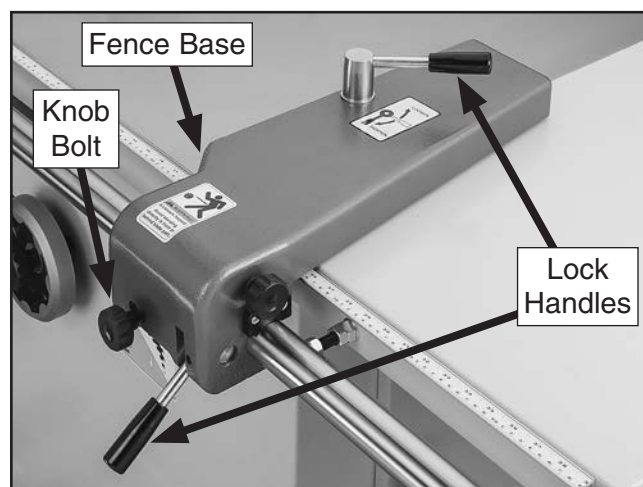

Figure 28. Rip fence attached with lock handles and lock knob installed.
18. Slide rip fence base onto fence rail, as shown in **Figure 28**.
19. Thread (2) M10-1.5 x 12 lock handles and M10-1.5 x 55 lock knob bolt into rip fence base, as shown in **Figure 28**.